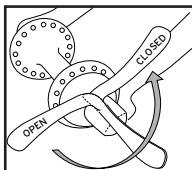

Figure 41- Proper lever throw
3. Place the lever in the palm of your hand and throw the lever as shown in Figure 41 to the **CLOSED** position (Figures 43-44). At the half-closed position of the lever, there should be some resistance.